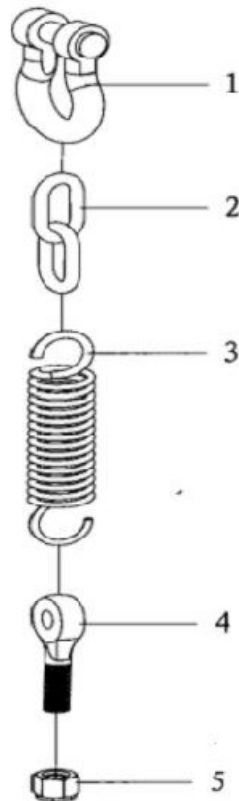

Fig 26
7.23. Lifting Chain Assembly (Fig26, Table25)